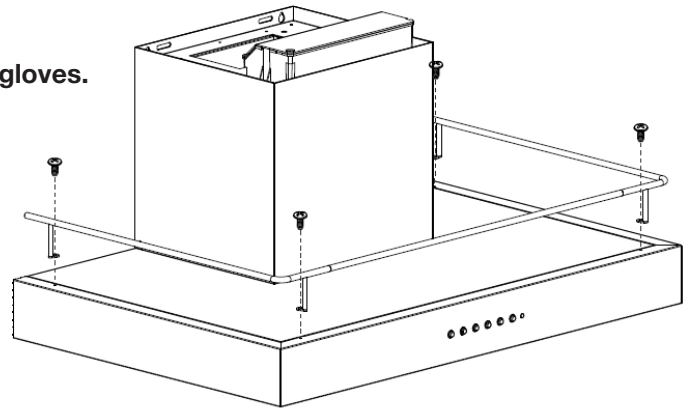

Figure 4
- Align bar to the mounting holes and use ST4 × 8 mm screws to fix the bar on the hood (Figure 4).